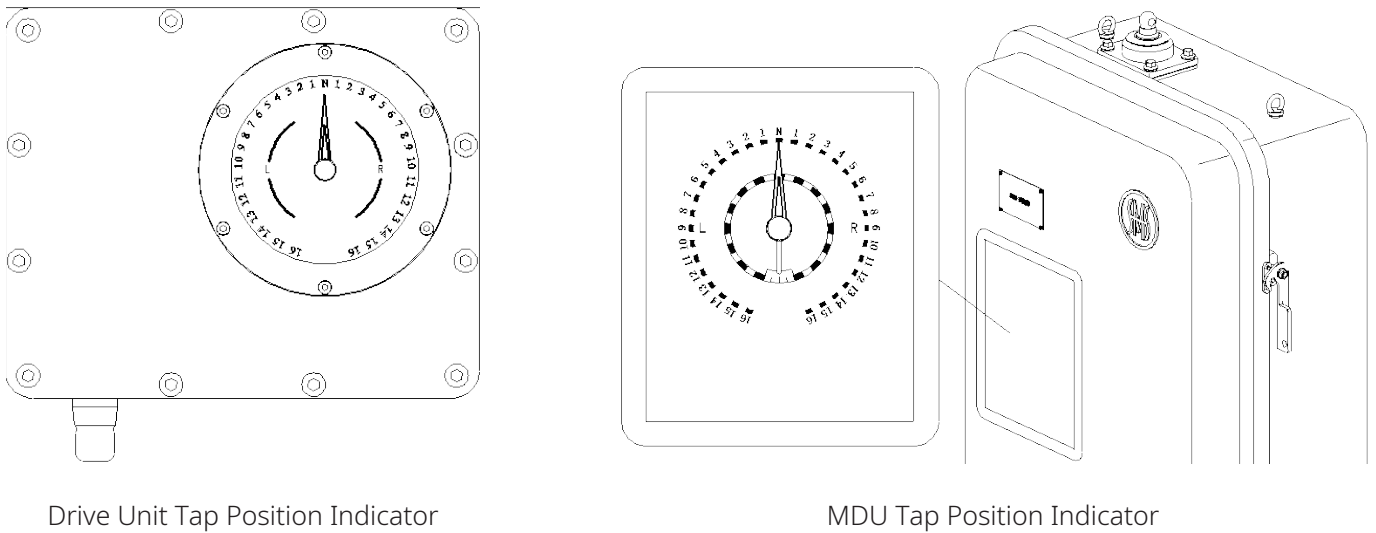

Figure 8-8 Drive Unit and MDU Tap Position Indicators
- Before installation, ensure that the tap position indicator on the drive unit and the MDU are aligned (see Figure 8-8).